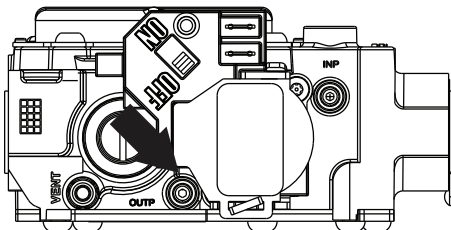

Fig. 7 – Control Switch to OFF
5. Turn the control switch on the gas control to the OFF position and wait 5 minutes, see Fig. 7. Then smell for gas, including near the floor. If you smell gas, STOP! Follow “B” on furnace label. If you don’t smell gas, go to next step.
5. Turn the switch on the gas control to the OFF position, see Fig. 7.